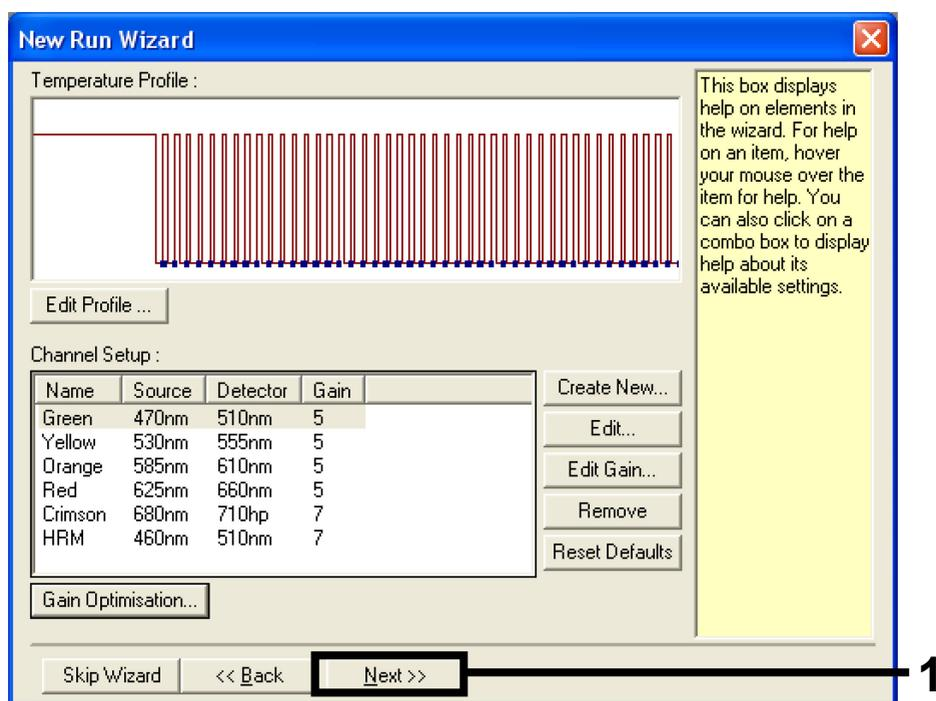

Figure 3. The “New Run Wizard” dialog box and temperature editing screen. 1 = “Next.”
17. This next window allows editing of the temperature profile. No editing is required as the temperature profile has been created according to the instructions in “Protocol: Creating a temperature profile,” page 32. Click “Next” (Figure 3).